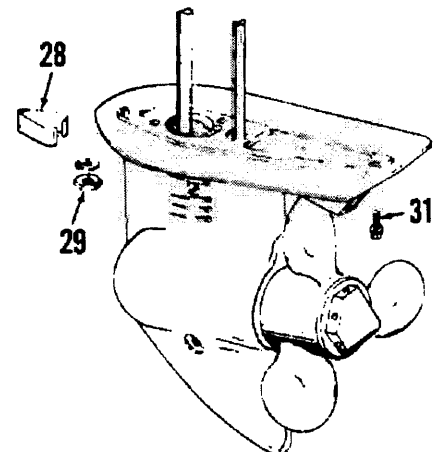

Fig. E2-32—Lower unit may be removed from motor leg after removal of nut (29) and screw (31).
A three-blade propeller is used on 7 and 7.5 hp motors. All others are equipped with a two-blade unit. Various diameter and pitch propellers have been used. Steel shear pin, part 96284, is used on propeller of models not equipped with a forward/neutral or full gear shift lower unit. Models with forward/neutral lower unit use shear pin 95718. Motors equipped with full gear shift lower unit (Fig. E2-32) use shear pin part 96683.
careful not to drop screw in motor leg. Remove clip (28—Fig. E2-32). Remove screw (31) and stud nut (29). Pull lower unit from motor leg.